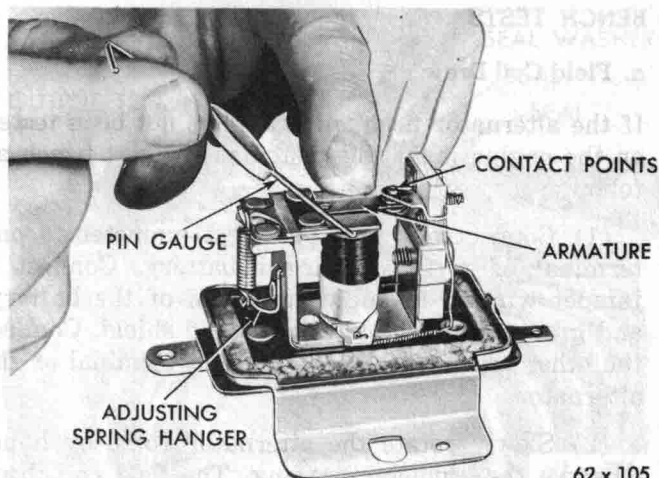

Fig. 28—Checking Air Gap
(1) Remove the regulator. Remove the regulator cover.
(2) Insert a .048 inch wire gauge between the regulator armature and the core, next to the stop pin on the spring hanger side. (Fig. 28).
(3) Press down on the armature (not the contact spring) until it contacts the wire gauge. The upper contacts should just "open".
(4) Insert a .052 inch wire gauge between the armature and the core, next to the stop pin on the spring hanger side.
(5) Press down the armature until it contacts the wire gauge. The contacts should remain "closed", and the test light should remain "bright".
(6) If adjustment is required, adjust the air gap by loosening the screw and moving the stationary contact bracket; make sure the air gap is checked with attaching screw fully tightened. Remeasure the air gap as described in step 2, 3, 4 and 5.
(7) Remove the wire gauge from under the armature. Measure the lower contact gap with a feeler gauge. The lower contact gap should be .012 to .016 inch. Adjust the lower contact gap by bending the lower stationary contact bracket.
(8) Install the regulator cover. Install the regulator. The voltage setting must be rechecked on the engine after installation of the regulator.